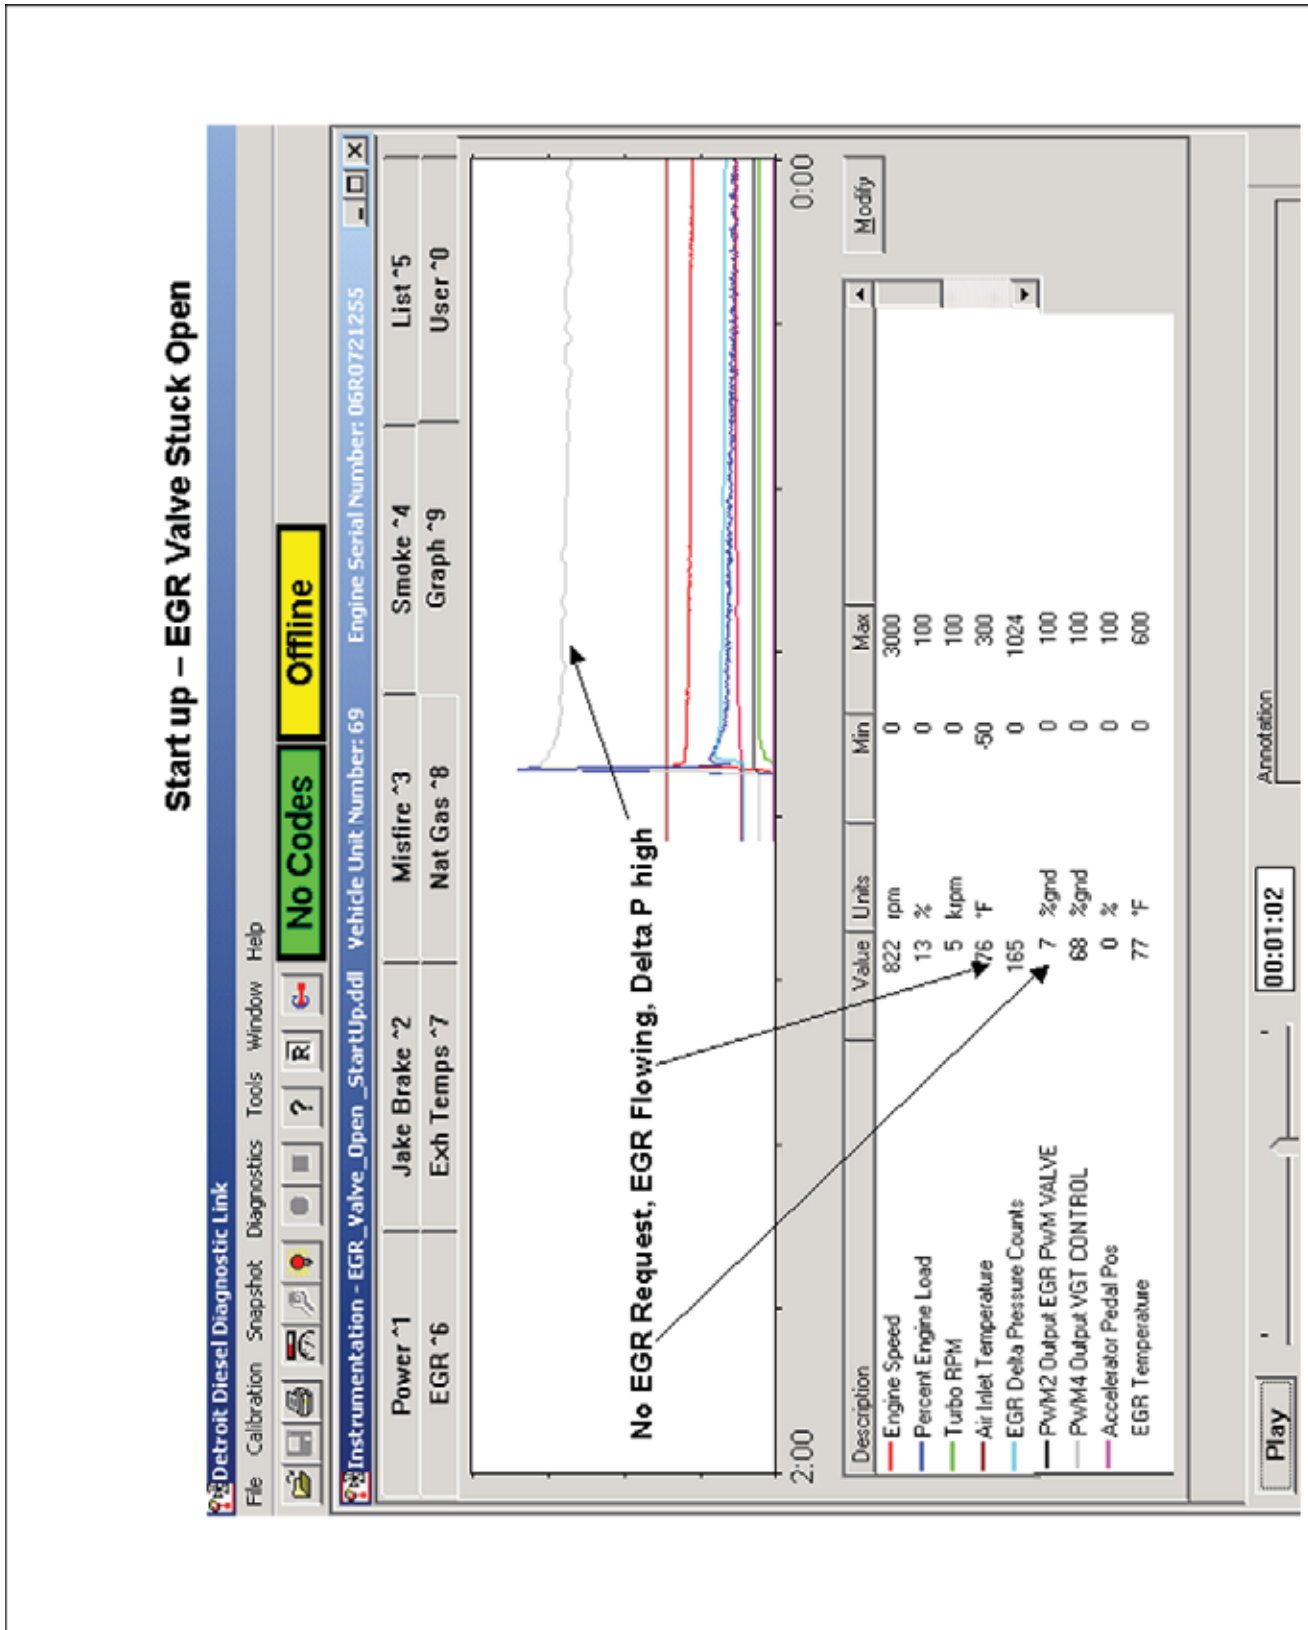

Figure 7-5 Start Up — EGR Valve Stuck Open
- EGR Valve stuck open. See Figure 7-5.